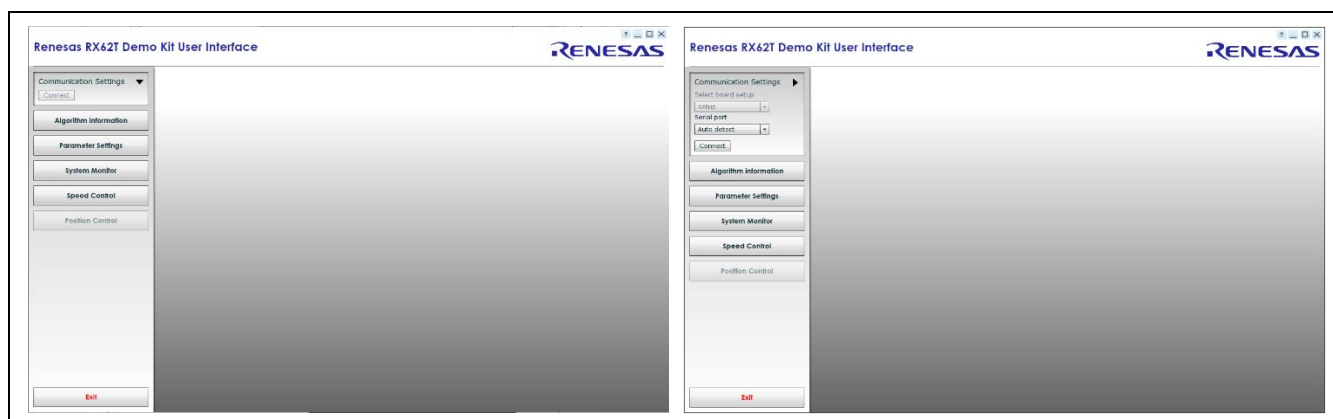

Figure 25 Connecting to the Motor Control Demo GUI 1 of 2
The GUI program screen will launch and display as shown in Figure 25. For a serial port update, wait for a few seconds to get the “Connect” button highlighted and then proceed to Step 3.
Step 3. Click the “Communication Settings” tab on the top left of the GUI seen in Figure 25 and select “Auto detect” under the serial port drop-down tab.